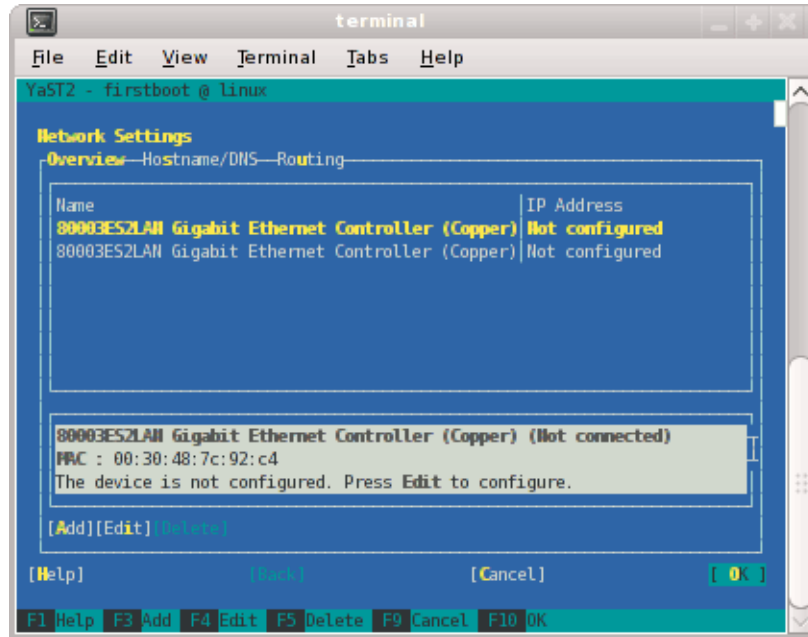

Figure 2-12 Network Settings Screen
5. From the **Network Settings** screen, as shown in Figure 2-12 on page 47, configure the first card under **Name** to establish the public network (sometimes called the house network) connection to your SGI Altix ICE system. To do this, highlight the first card and select **Edit**.
Note: In SLES11, this screen is also where we will come back to in order to set up things like the default route and DNS. You can see all of those menu choices just to the right of **Overview** in Figure 2-12 on page 47.